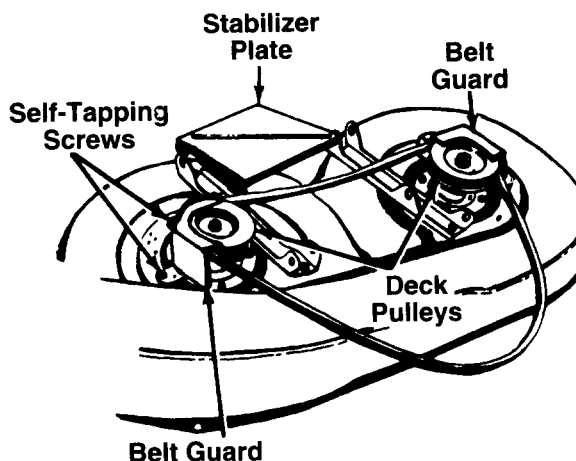

FIGURE 23
1. Remove the belt guards at each deck pulley by removing the hex bolts, lockwashers and hex nuts. See figure 23.